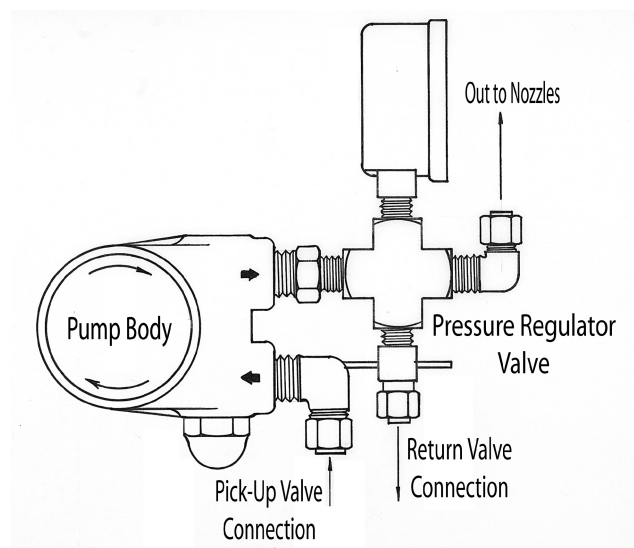

Fig 5
2. Attach the Discharge Check Valve in the same manner. Feed the 1/4" Tube up through the small hole in the Lid. Insert a 1/4" Insert into the cut end of the tubing, push into the nut on the Pressure Regulator Valve and tighten with a wrench. (Fig. 5, pg. 6).